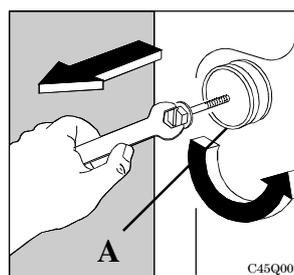

Fig. 3
- On the back part and with a spanner, remove the two loosened spacers (A) (fig. 3).